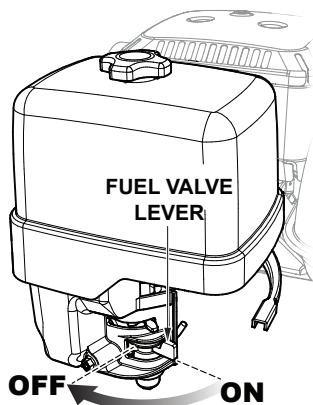

Figure 30. Fuel Valve Lever (OFF)
3. Place the fuel valve lever (Figure 30) in the OFF position.